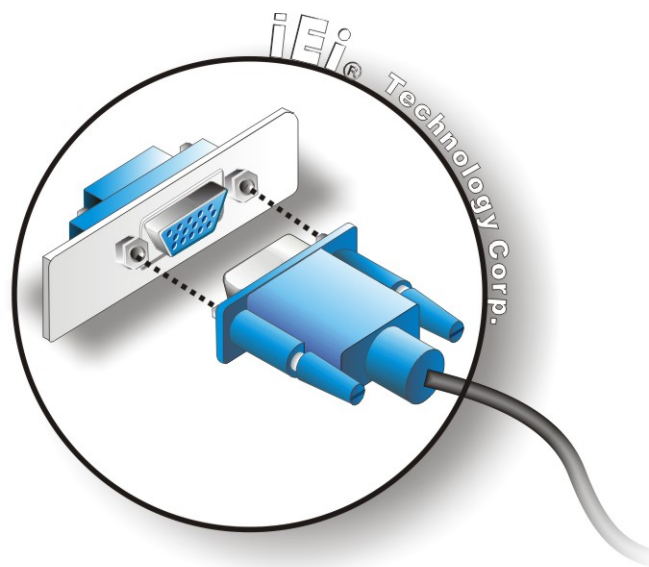

Figure 4-15: VGA Connector
- Step 3: Insert the VGA connector.** Once the connectors are properly aligned with the insert the male connector from the VGA screen into the female connector on the PCIE-Q57A. See **Figure 4-15**.